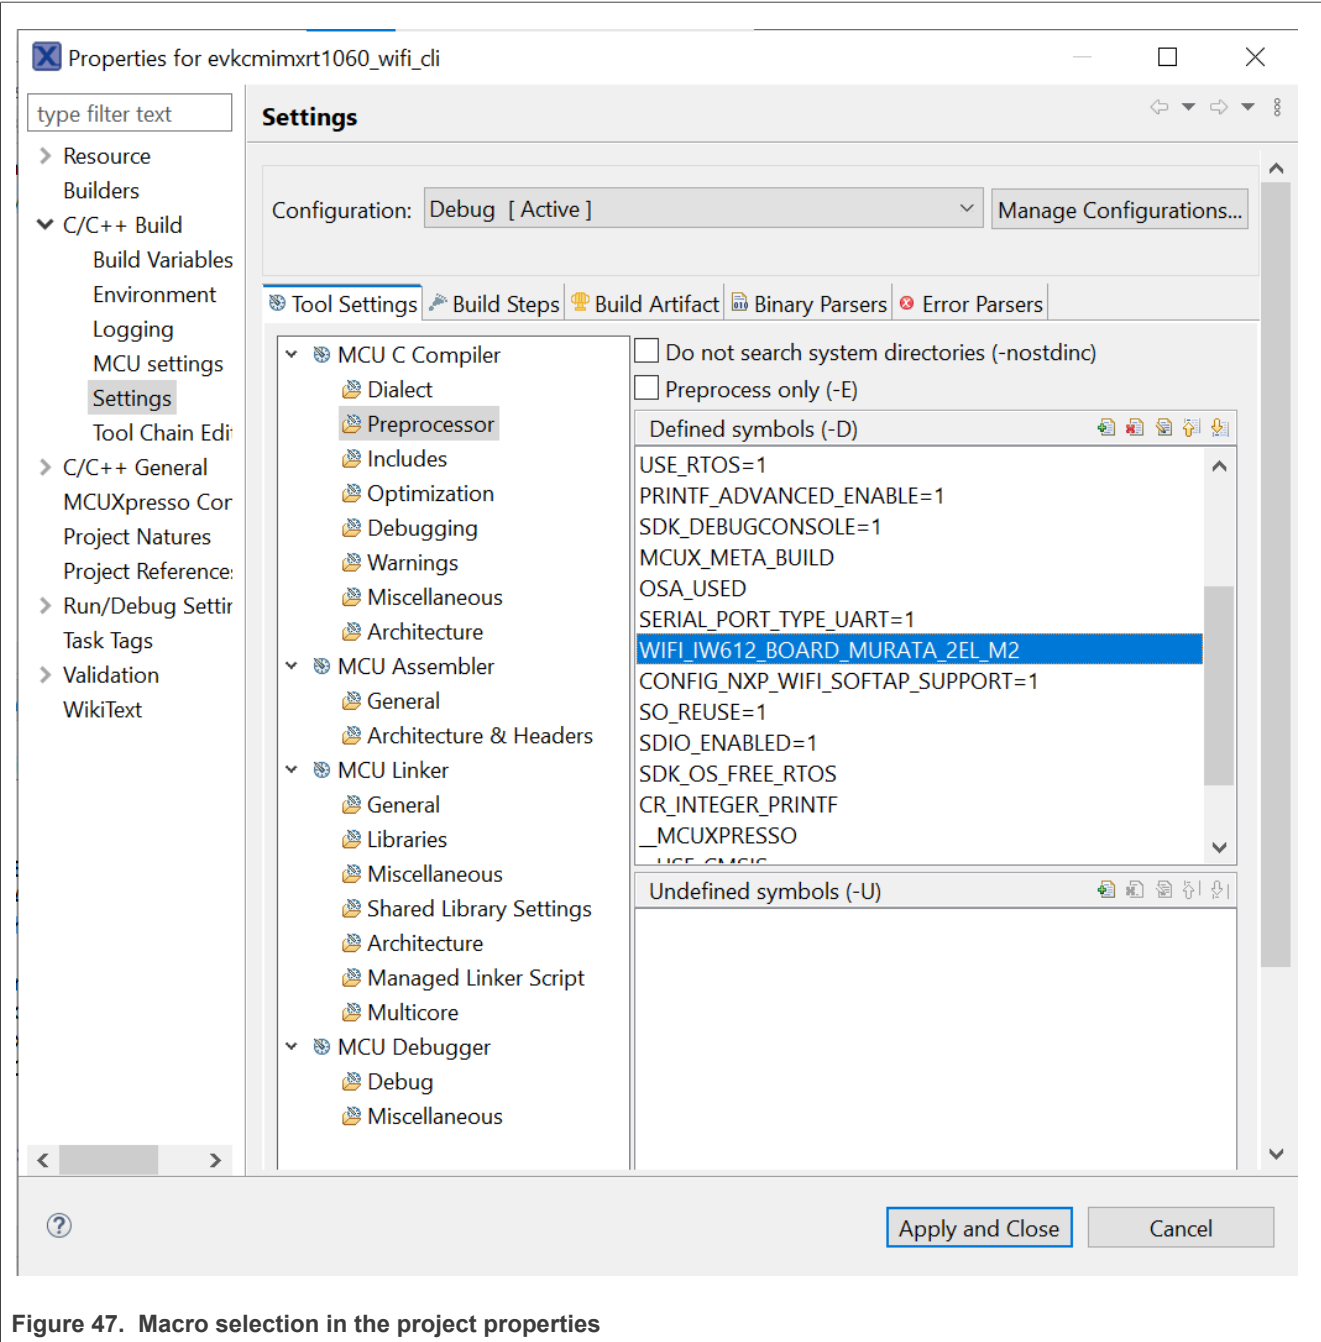

Figure 47. Macro selection in the project properties
- Go to project properties > C/C++ Build > Settings > Preprocessor (Figure 47).